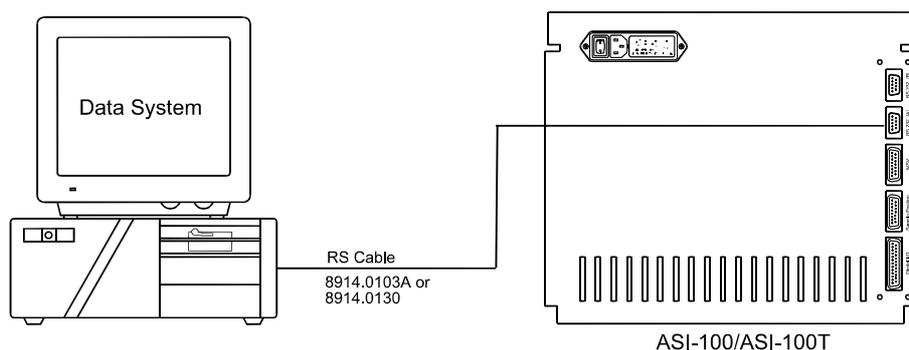

Fig. 10: Direct connection via RS-232
- To connect the autosampler directly to the Chromeleon chromatography management system (→ Fig. 10). The following connection cables are available from Dionex: